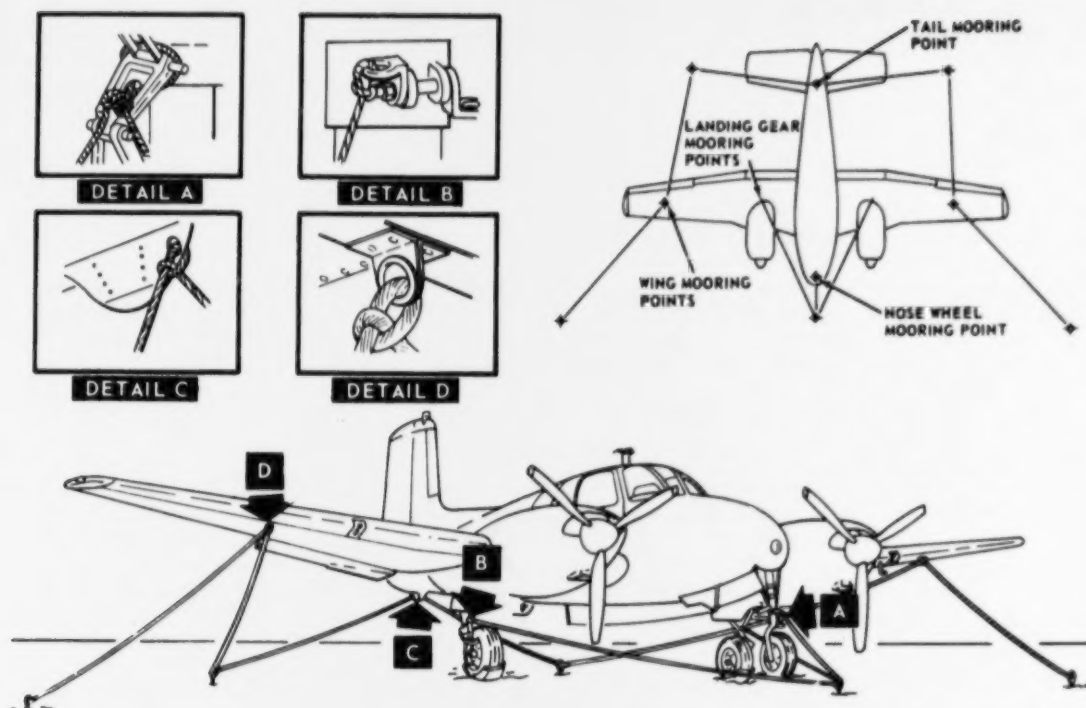

Figure 1-15. Mooring the aircraft
1-99. **MOORING PROVISIONS.** Mooring points (figure 1-15) are provided beneath the wing, nose, and tail and on each main landing gear. General mooring equipment and procedures necessary to moor the aircraft, in addition to the following paragraphs, will be given in TM 55-1500-204-25/1.
g. Accomplish aircraft tiedown by utilizing mooring points shown in figure 1-15. Make tie-down with 1/4-inch aircraft cable, using two wire rope clips, or bolts, and a chain tested for a 3000-pound pull. Attach tiedowns so as to remove all slack. (Use a 3/4-inch or larger manila rope if cable or chain tie-down is not available.) If rope is used for
tiedown, use anti-slip knots, such as bowline knot, rather than slip knots. In the event tiedown rings are not available on hard surfaced areas, move aircraft to an area where portable tiedowns can be used. Locate anchor rods at points shown in figure 1-15. When anchor kits are not available, use metal stakes or dead-man type anchors, providing they can successfully sustain a minimum pull of 3000 pounds.